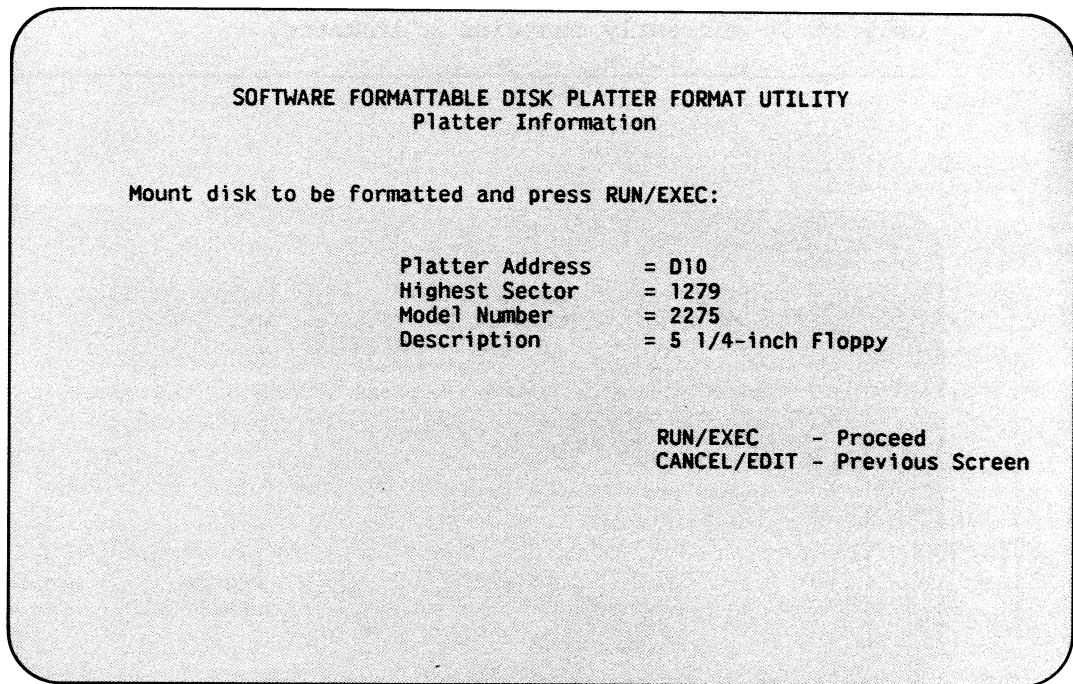

Figure 2. Platter Information Screen
2. If you want to format a disk at an address that is not listed, press special function key 15 (SF'15/GOTO). Enter the appropriate address in the Address field and press RUN/EXEC. The system displays the Platter Information Screen (refer to Figure 2).
2. Press Y to format the disk, or press N to return to the Platter Information screen (refer to Figure 2).